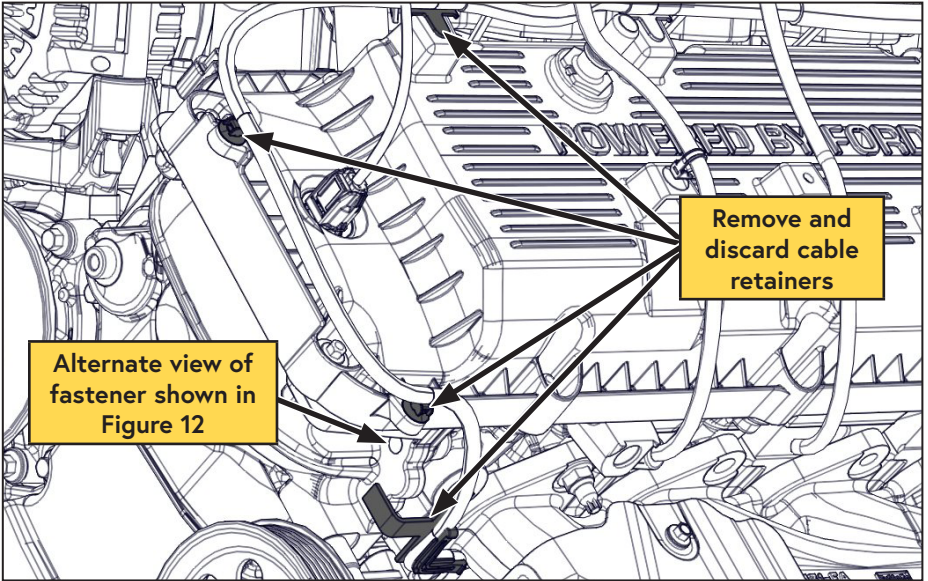

Figure 13 — Remove cable retainers
- Remove and discard the indicated cable retainers (Figure 13).